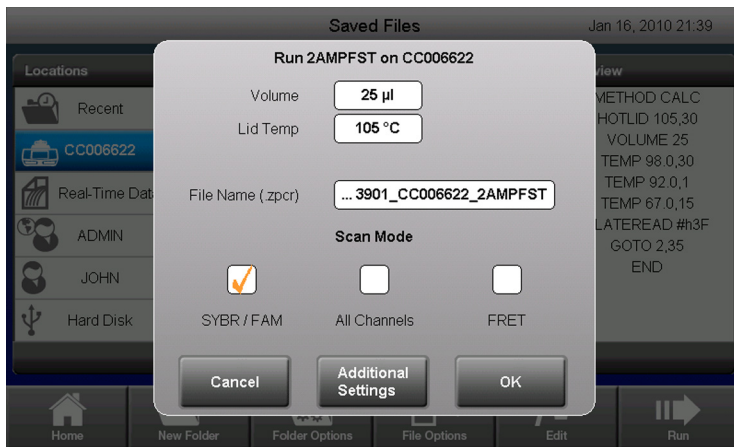

Figure 41. Run confirmation screen.
2. Verify the lid temperature (**Lid Temp**), sample volume (**Volume**), and file name (**File Name (.zpcr)**) that will be used for the run (Figure 41). A default stand-alone data file name is created prior to the run.